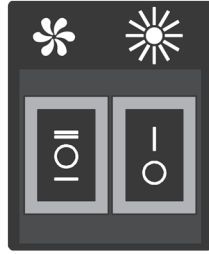

Fig.5
**7.3 On the sides of the housing there is a rocker-type switch for selecting of operating mode and switching on the light bulbs (Fig. 5):**